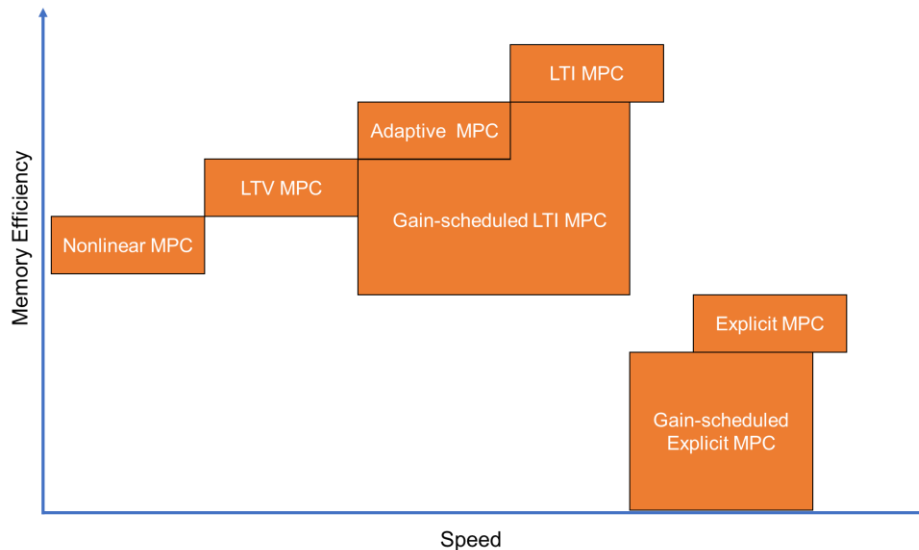

Figure 7. Speed and memory comparison of different MPC approaches in Model Predictive Control Toolbox.
Figure 7 shows how different MPC approaches compare in terms of speed and memory requirements. Explicit MPC leads to fastest execution but also has the largest memory footprint, as well as a more limited set of features compared with other approaches. Nonlinear MPC is the most powerful, generic approach for MIMO systems. However, it is also the most computationally expensive approach, with the highest memory footprint after explicit MPC. Memory requirements for gain-scheduled (explicit) MPC depend on the number of controllers designed, which is also reflected in Figure 7.
**MPC type.** As Figure 7 shows, memory requirements vary with type of MPC as well, with LTI MPC and (gain-scheduled) explicit MPC having the smallest and largest memory footprint, respectively.